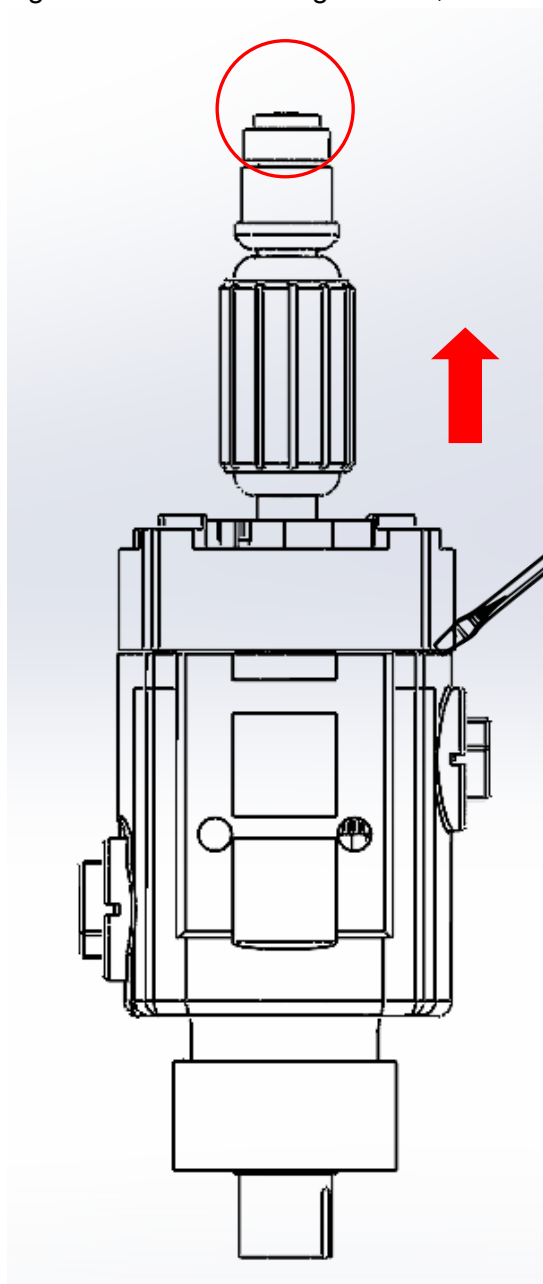

Figure 5.15
- 5.5.3 Once the two parts are separated, place the gearbox part vertically as in figure 5.15, to prevent grease from escaping;
- 5.5.4 Using a screwdriver, pry and remove the piece in the direction of the red arrow (see figure 5.15);
- 5.5.5 Once the armature has been pulled, pay attention to the magnetic ring, highlighted in the circle in figure 5.15;